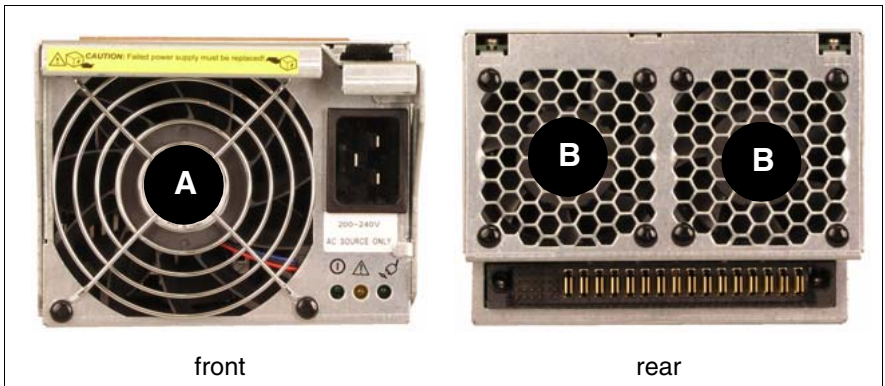

Figure 75: PSU: Fans
Each power supply unit has a large fan on the front (A) and two smaller fans on the rear (B) that provide air cooling for the system (see figure 75 below).